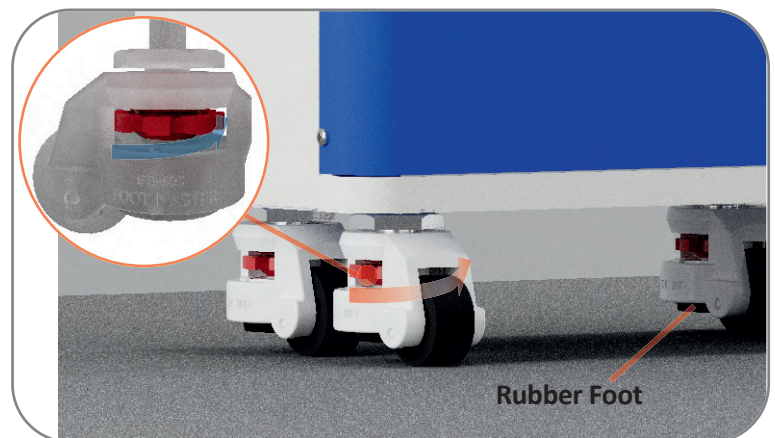

Figure 7.19
STEP 18: To secure the LBP to the floor, turn the red wheel shown in Figure 7.19 in the direction of the arrow until the rubber foot makes contact with the ground.